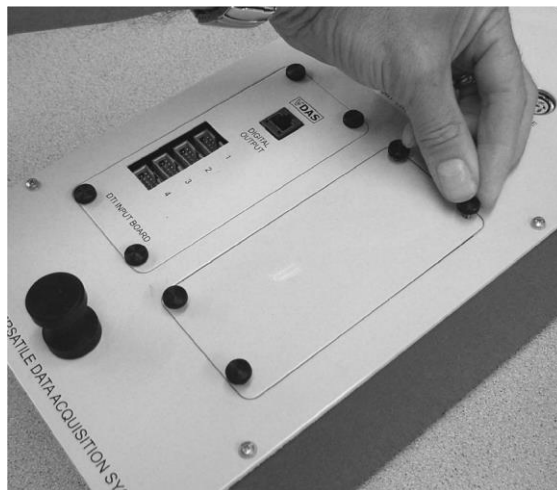

Figure 14 Unscrew the Fixings (VDAS-F Hardware shown, VDAS-FC and VDAS-B are similar)
2. Unscrew the fixings for the blank plate (see Figure 14).